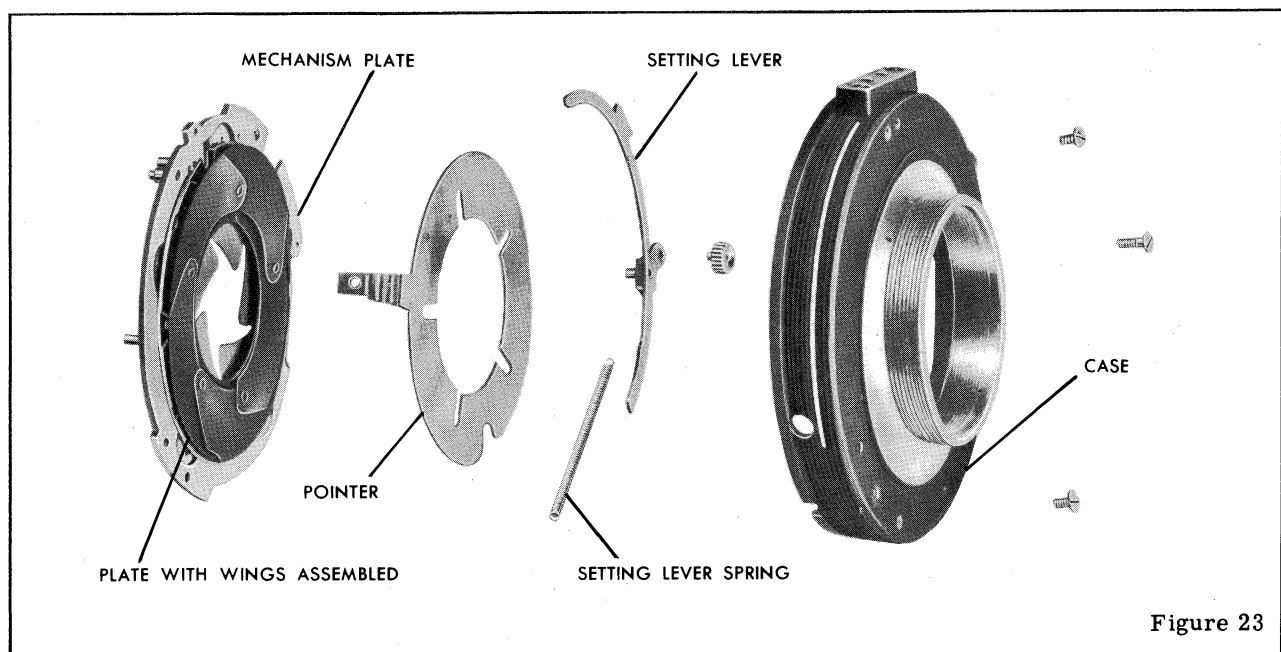

Figure 23
1. Apply a thinfilm of grease (Texaco Unitemp-RCX169 Grease) in the slot on the maindrive assembly where it engages the stop stud on the SETTING LEVER, figure 23; on the MAIN DRIVE STUD, figure 26; on the LATCH, figure 7, at the point of contact with the LATCH SPRING, and on the latch where it contacts the RETARDING SECTOR STUD, figure 26. This area of the latch should be burnished before applying the lubricant.
9. Trip the shutter and at the same time retard its opening action by placing one finger against the shutter SETTING LEVER, figure 23. Observe whether the BLADE CONTROLLER CONTACT STUD, figure 26, makes slight contact with the contact spring just before the blades are fully open. If the spring does not touch the stud, bend the end of the spring toward the stud.
11. MECHANISM PLATE, figure 23.
8. The shutter CASE, figure 23, diaphragm POINTER and the SETTING LEVER should be thoroughly cleaned. Apply a thin film of grease (Texaco Unitemp-RCX169 Grease) in the recess in the case occupied by the setting lever. Then wipe this area lightly with a clean cloth.